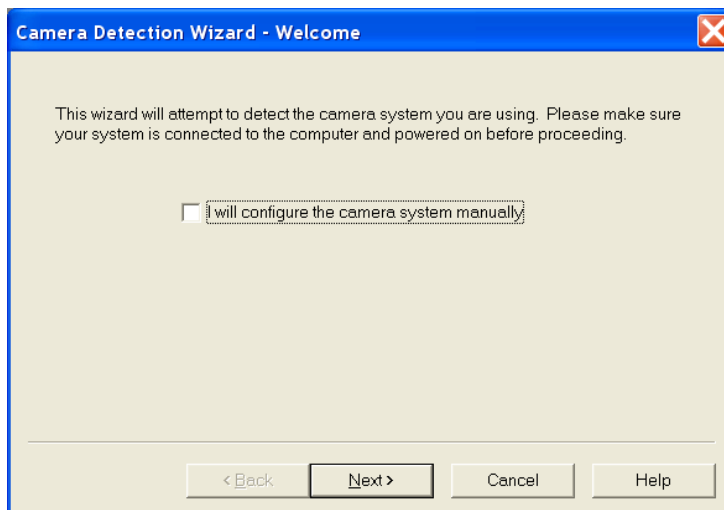

Figure 6. Camera Detection Wizard - Welcome dialog
3. On the **Welcome** dialog (Figure 6), leave the checkbox unselected and click on **Next**.